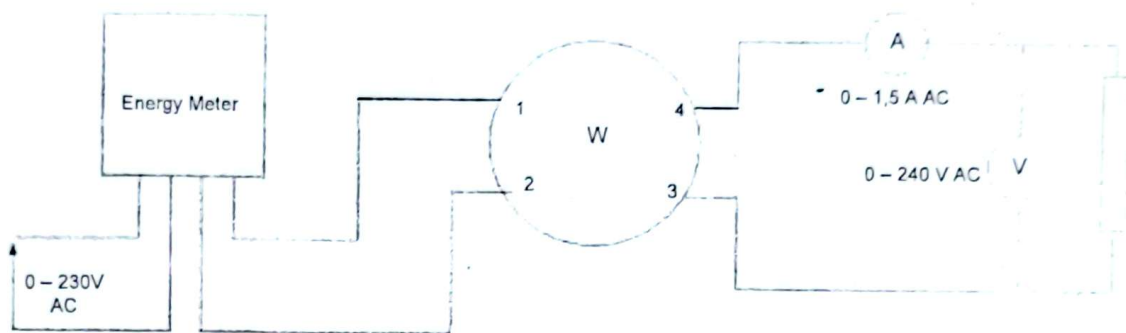
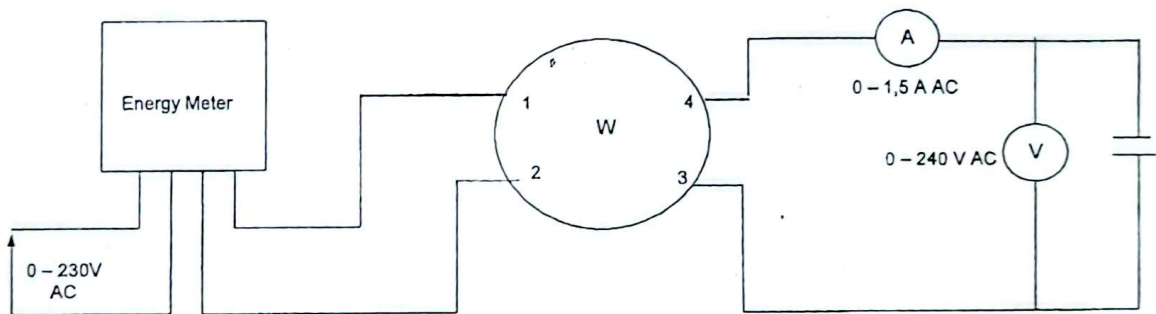
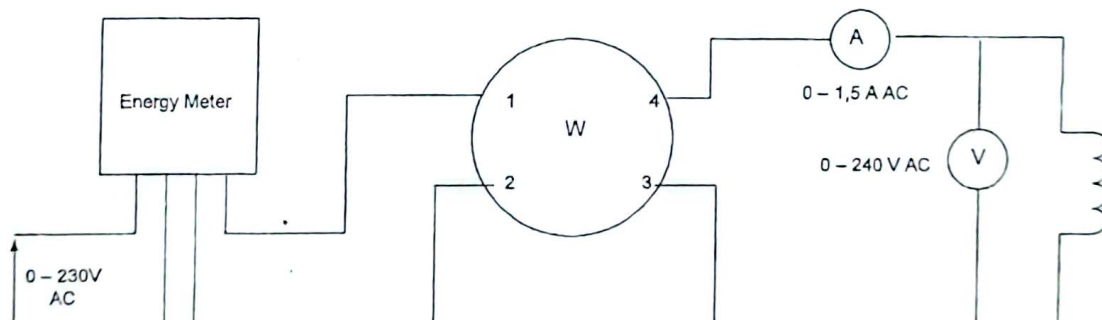

Figure 2: Power measurements with a resistive load
Figure 3: Power measurement on a capacitive load
Figure 4: Power measurement on an inductive load
Step 2 – Connect the circuit as shown in Figure 2.
Table 1: Meter readings for the test shown in Figure 2
Step 1 – Connect the circuit shown in Figure 3. Select the **maximum** capacitance available from the capacitor module as the capacitor. Note that this circuit is identical to the circuit of Figure 2 except that the resistive load has been replaced by a capacitive load.
Step 1 – Connect the circuit as shown in Figure 4. Switch on appropriate inductance so that 2 A of current flows through it which is measured by the ammeter. Note that this circuit is identical to the circuit of Figure 2, except that the resistive load has been replaced by an inductive load.